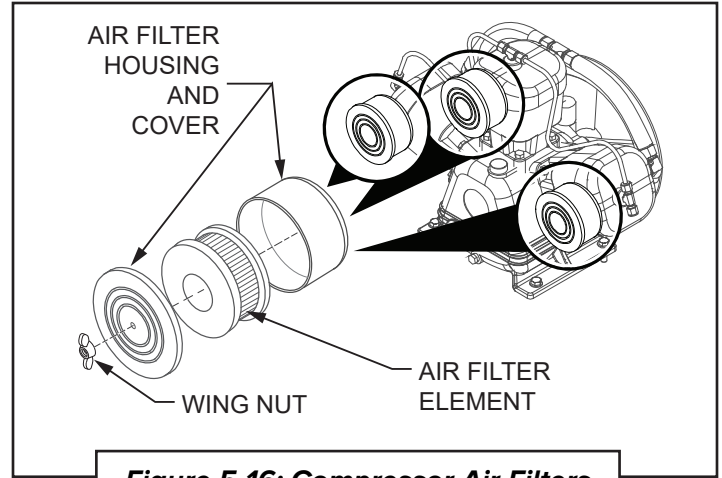

Figure 5-16: Compressor Air Filters
1. To check the air filters, remove the wing nuts from the three (3) filter housings. (See **Figure 5-16**.) The air filter elements can be removed simply by pulling them out.